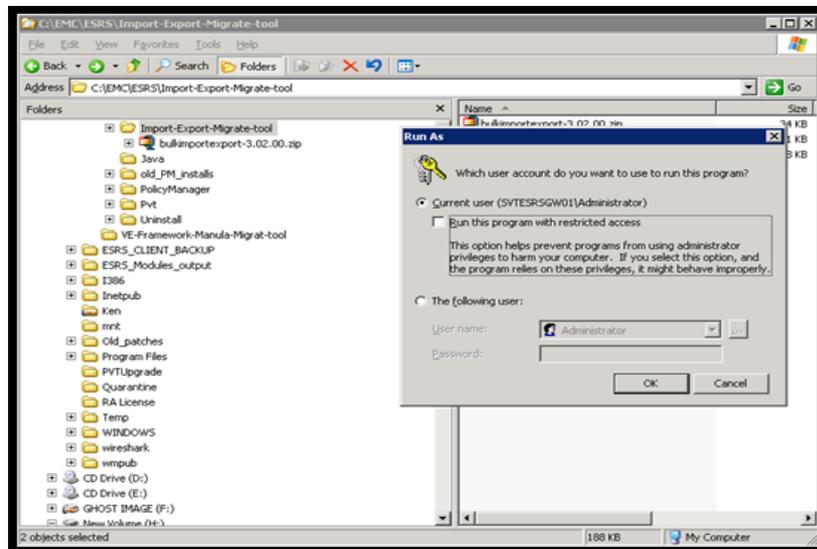

Figure 108 Running as administrator
- Right-click the program and select **Run As Administrator**, as shown in Figure 108 on page 96. A screen appears that explains what the tool can do.